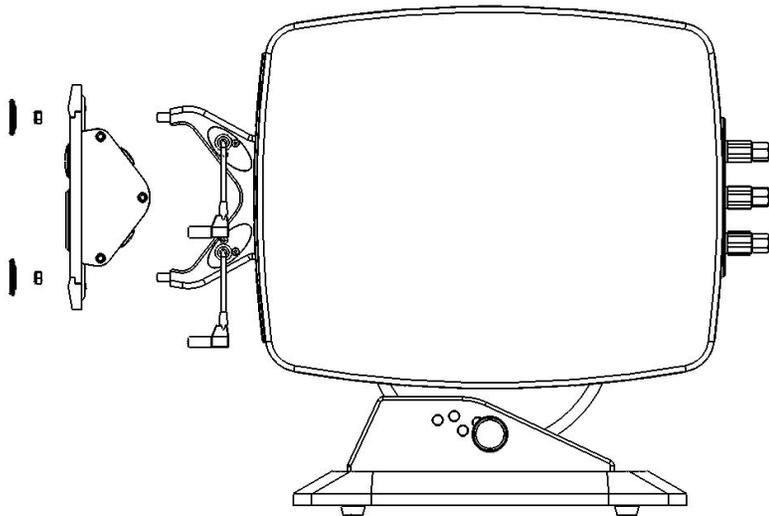

FIG.8
9. Place a locknut on each bolt and using the supplied lock nut driver tool, tighten the four Lock Nuts. Do Not Over Tighten. When snug, stop. (FIG.8)